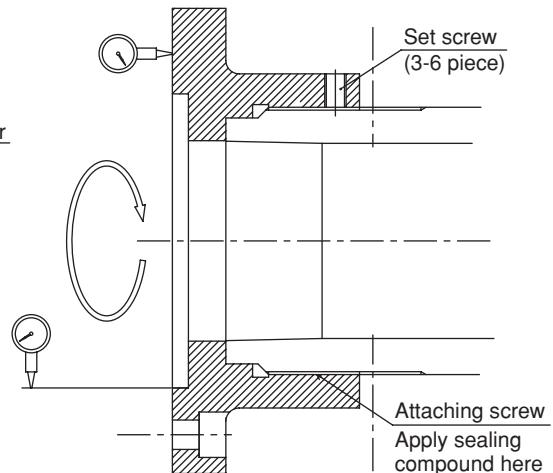

Fig.10 Run-out measurement of the cylinder adapter
- Attach with the surface run-out of the cylinder adapter and the run-out of the spigot joint at 0.005 mm or less. (Fig. 10) Large run-out causes vibration and shortens the life of the cylinder significantly.
- Never fail to provide a setscrew to prevent loosening of the cylinder adapter. (Fig. 10)